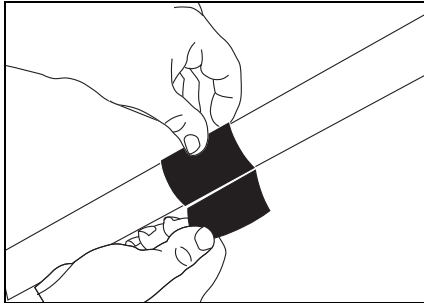

Figure 3: Install the mounting pad to the handlebar
6. Attach the neoprene mounting pad to the desired location on the handlebar. See Figure 3.